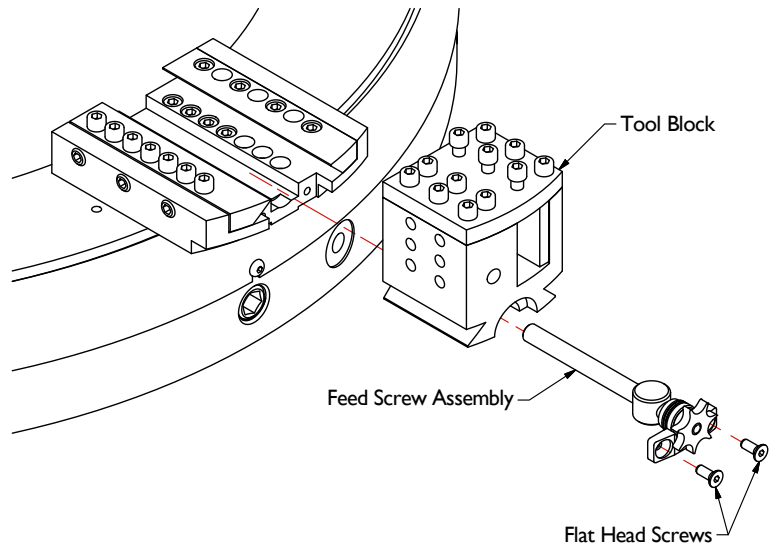

Figure 14 - Remove Feed Screw and Tool Block
1. Use a starwheel wrench to back the tool block fully away from the clamshell center. Remove the two flat head screws which hold the tool block and feed screw on the slide. Pull the tool block and feed screw assembly out of the slide. See Figure 14.